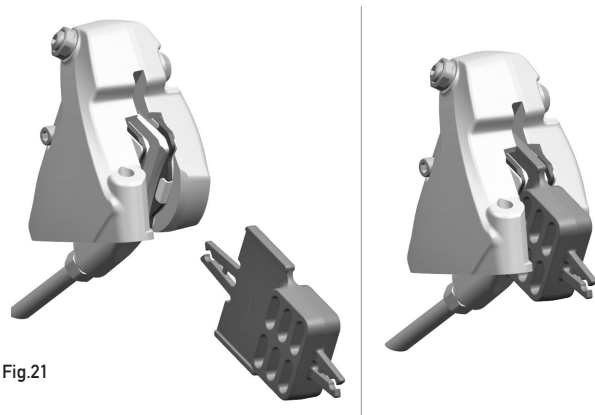

Fig.21
- If you need to remove the wheels from the bike, ensure that you have inserted the transport tool (Fig. 21) which prevents the brake pads from coming together if the brake lever is accidentally engaged, making it impossible to insert the disc.